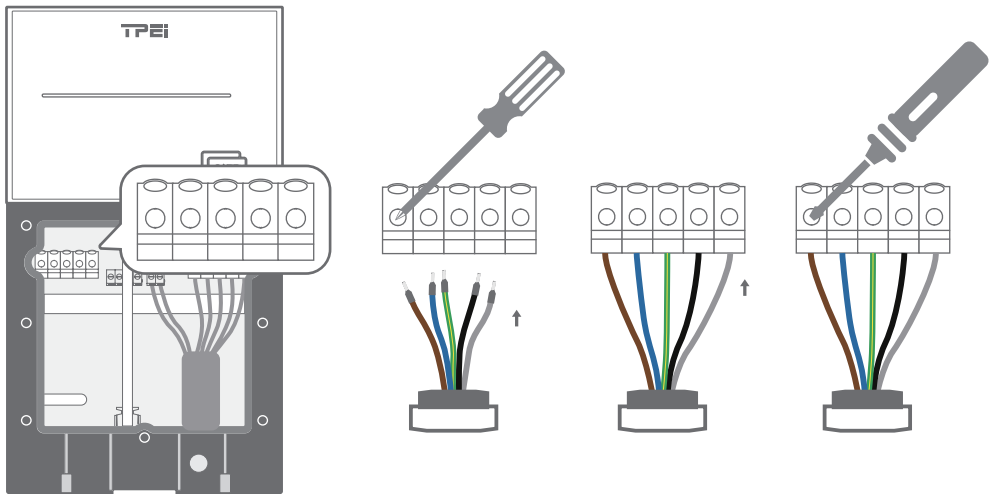

Fig. 5-15
6. Loosen the five terminal screws with a Phillips screwdriver and fully insert each wire connector into its correct terminal block. Use a torque screwdriver to tighten the terminal screws with a torque of 19.6 N.cm. (See Fig. 5-15)